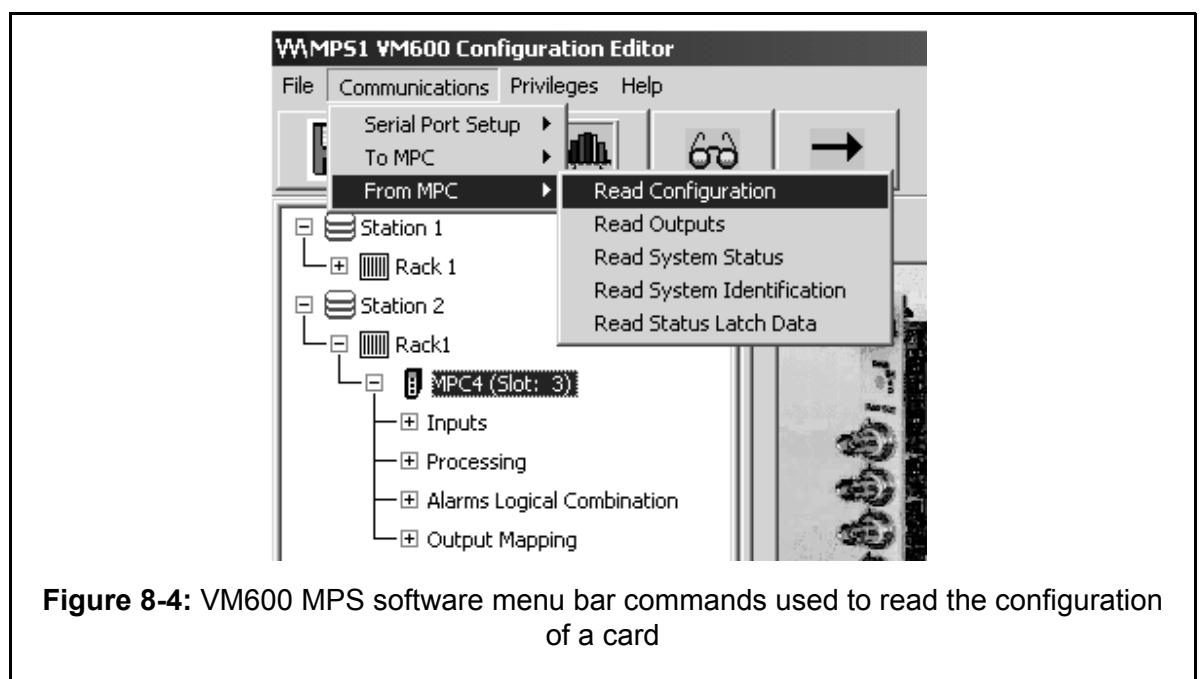

Figure 8-4: VM600 MPS software menu bar commands used to read the configuration of a card
- 3- Use the VM600 MPS software to read the configuration of the card in slot *nn* (see example in Figure 8-4, in which the card in slot 3 is selected).